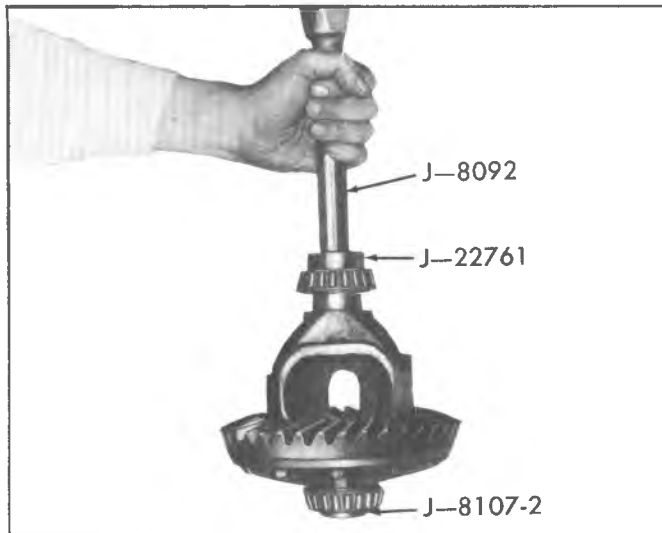

Fig. 4A—Differential Bearing Installation
3. Place new bearing onto hub, with the thick side of the inner race toward the case. Drive the bearing into place, using J-22761 as shown in figure 4A.